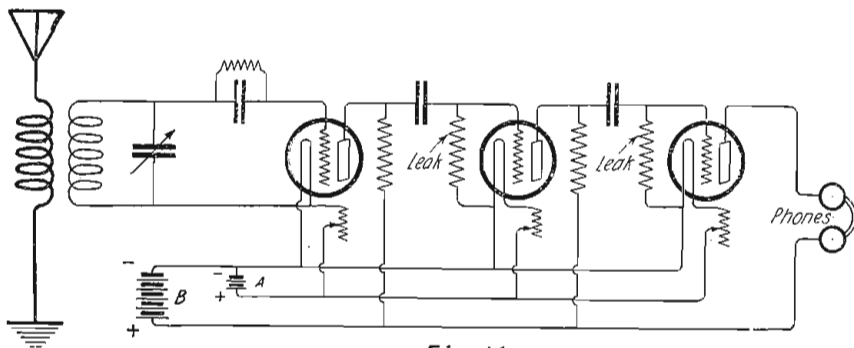
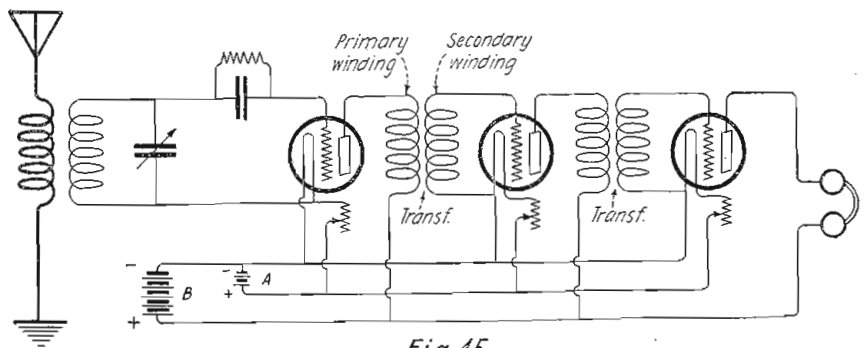

Fig. 14
Fig. 15
Such a scheme is shown in Fig. 14; the whole arrangement is called an *amplifier*, and some such arrangement is used in every good receiving set. An amplifier is said to be "two-stage," or "three-stage," etc., according to the number of tubes used. The one shown in Fig. 14 consists of one detector tube and two amplifying tubes, or we might say of a detector and a two-stage resistance coupled amplifier.
*Transformer Amplifier*—The type of amplifier shown in Fig. 14 is called a resistance amplifier because a resistance is used in the plate circuit of each tube, the variation of voltage drop across this resistance being used to supply the exciting voltage of the next tube of the series. Another type, more frequently used, is shown in Fig. 15: in this circuit there is a small transformer between each tube in place of the resistance of Fig. 14. The signal voltage, impressed on the grid of the first tube makes the plate current of this tube vary; this variation of current in the one coil of the transformer (called the primary) will produce a voltage at the terminals of the secondary coil of the transformer. This secondary voltage is theoretically of the same form as that im-